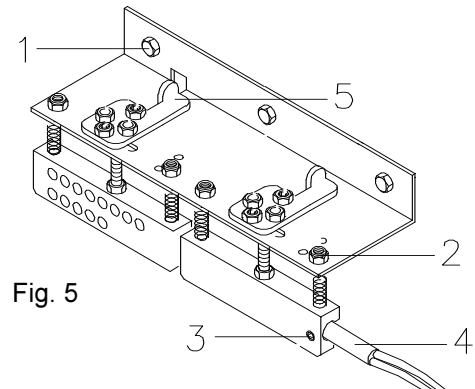

Fig. 5
- Turn the 4 nuts (fig. 5 pos 2) clockwise a few times to raise the elements. Counter clockwise to lower the elements.
- Loosen the 3 screws (fig. 5 pos 1) to remove the complete mounting plate.
- Loosen the cup (fig. 5 pos 3) to replace the heating element (fig. 5 pos 4).
- Raise the heating and cooling plates by rotating the handles above the plates clockwise (fig. 5 pos 5).